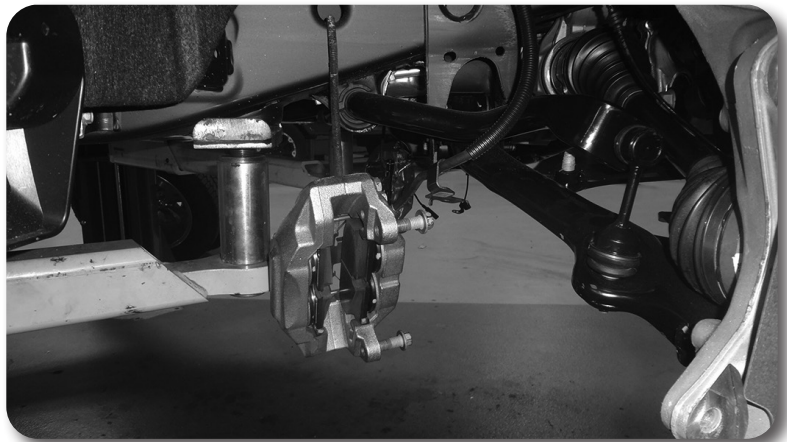

Figure 5
8. Remove the two brake caliper mounting bolts and remove the caliper from the knuckle Fig. 5. Hang the caliper securely out of the way DO NOT hang the caliper by the brake hose. Save caliper bolts.